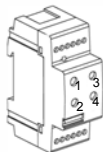

Fig 3
2. Switch on the mains supply and press the programming pushbutton (Fig. 3). The red LED goes on.
Each switching actuator module can be operated locally by means of the LED pushbuttons (Fig. 3). In this case, the module must not be in the programming mode (see Commissioning, programming).